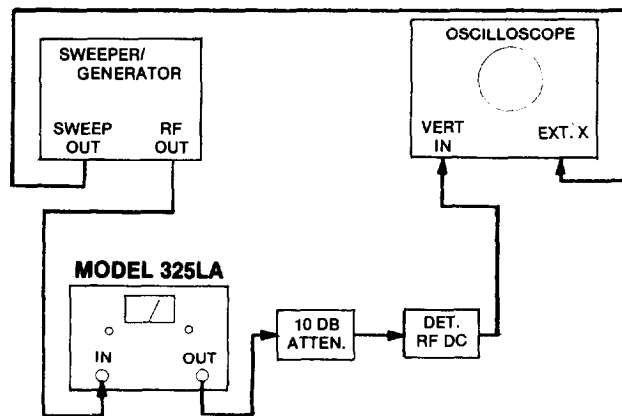

Figure 4-1. Gain and Gain Variation Test Set-up.
- a. Set up the test equipment as shown in figure 4-1.
- h. Reconnect the Model 325LA into the test set-up of Figure 4-1.